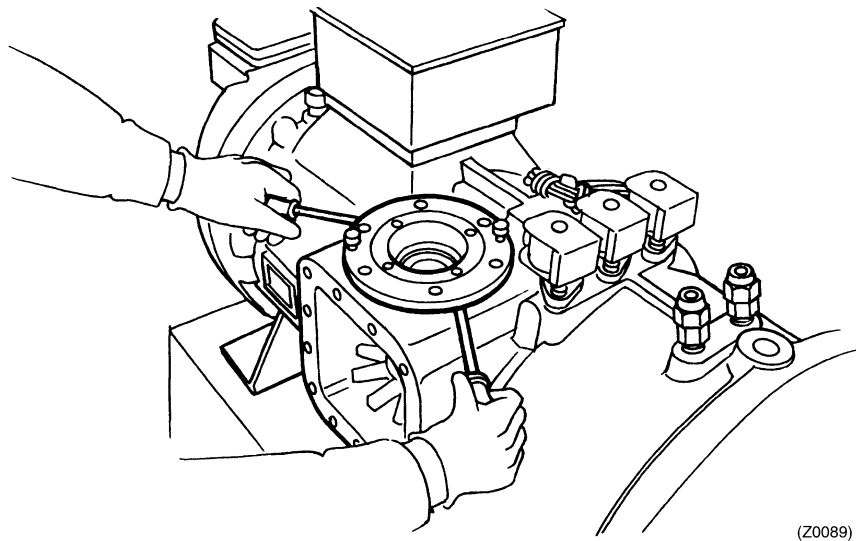

Fig. 4-8 Removing lower bearing holder
- (4) Removing the lower bearing holder (upward and downward units)
- ① In the guide bolt hole, thread the bolt that was used for the lower bearing holder mounting and lift the lower bearing holder from the casing.
- ② Remove the shims inserted between the lower bearing holder and casing. (Do not lose the shims.)
- ③ The lower bearing holder and casing are sealed by an O-ring. Therefore, it may be difficult to remove the lower bearing from the casing. To separate them, insert two standard screwdrivers at the flange section at locations opposite from each other, and slowly twist the screwdrivers, as shown in Fig. 4-8.